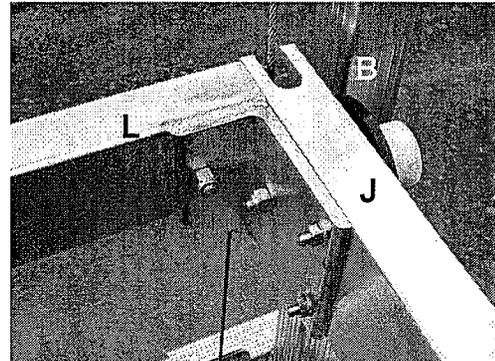

FIG. 19
4. Position the carriage cross beam J with two cables at the end of the lift opposite of the winch as shown in FIG. 19.